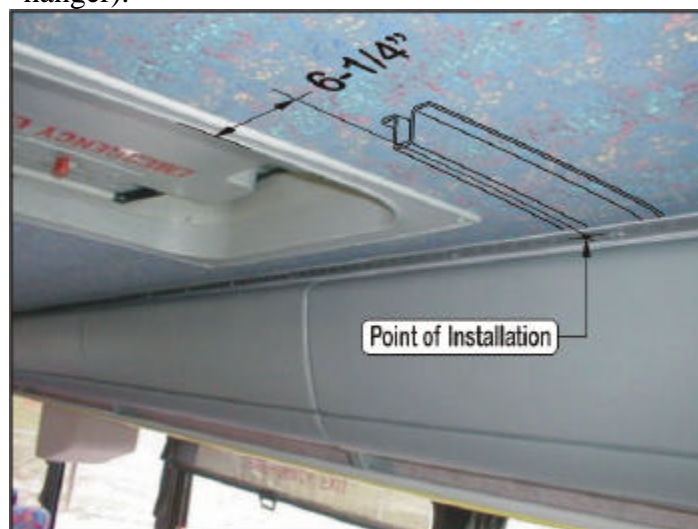

Figure 1
- C. Locate the centerline of the roof bow forward of the front roof hatch by measuring 6 ¼" from the inside of the front hatch forward. See Figure 1. Now locate the intersection of this roof bow with the outside aisle support for the parcel rack on both the right and left side of the coach. Mark this intersection and continue to rear extrusion (inside hanger).
NOTE: Figure 1 shows how to locate bow with parcel rack installed. Continue on same centerline outward for rear extrusion (Inside Hanger)
11. Locate the centerline of the roof bow rearward of the front roof hatch by measuring 6 ¼” from the inside of the front hatch rearward. (Front Extrusion-- See Figure 1) Now locate the intersection of this roof bow with the (outside aisle support) for the parcel rack on both the right and left side of the coach. Mark this intersection and continue to rear extrusion (inside hanger). After locating, follow above steps 7, 8, 9 and 10 above.